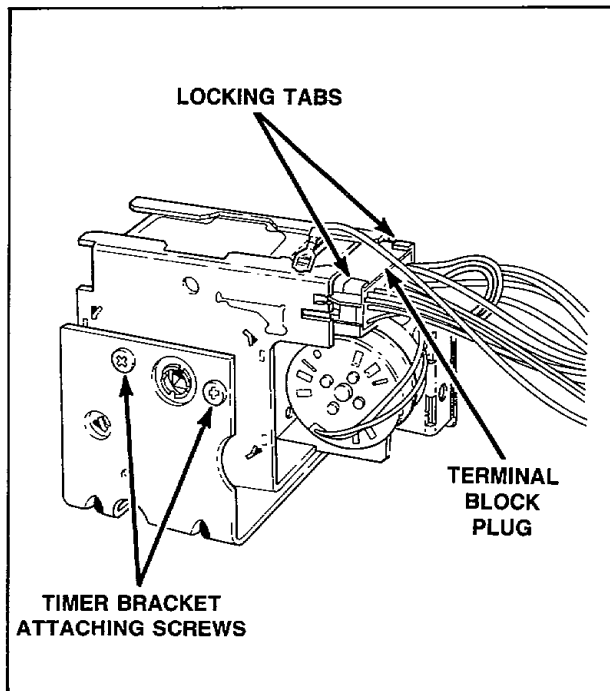

Figure 4
- d. Disengage wire harness terminal block plug from timer by pressing in on the movable locking tabs (located on each side of terminal block plug), *Figure 4*. Then pull the terminal block plug away from timer.
- e. Remove two screws holding timer to bracket, *Figure 4*.